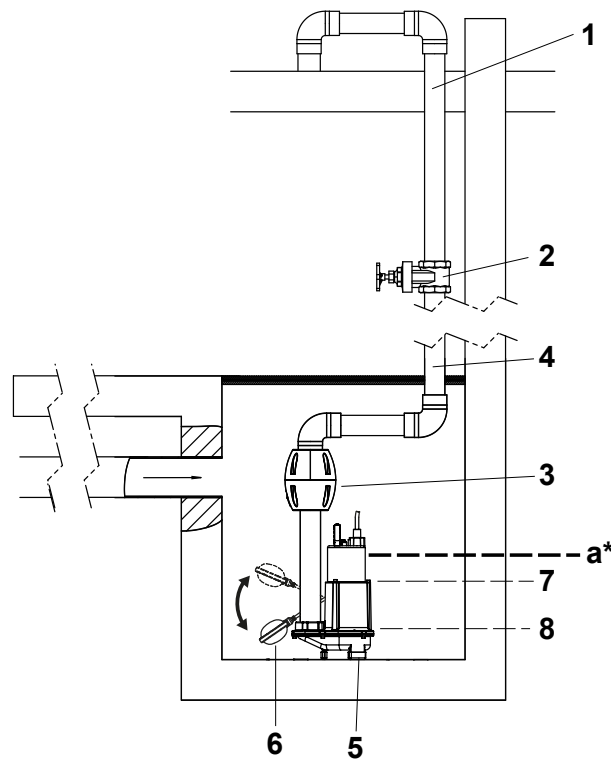

Figure 2: Installation example in concrete sump
- Above 60 °C to max. 80 °C medium temperature, the maximum water level (see Figure 2, marked "a" above) must not be exceeded.